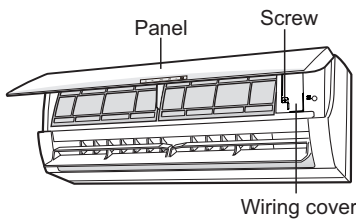

Fig. 11
- (1) Open the panel, remove the screw on the wiring cover and then take down the cover.(As show in Fig.11)